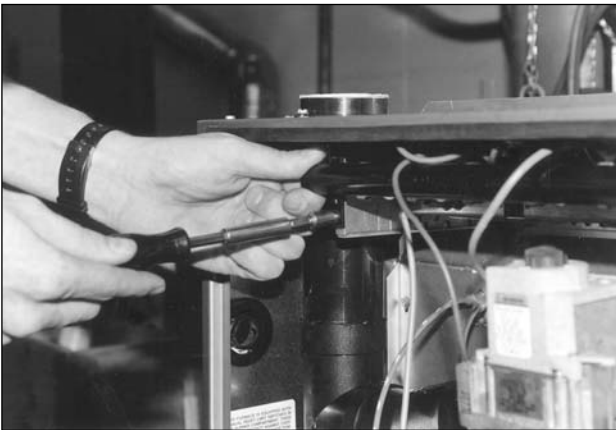

FIGURE 3
4. Remove the four screws holding the gas manifold to the burner brackets and remove the manifold assembly. **Take care not to damage the wiring or hot surface igniter.** See Figure 3.